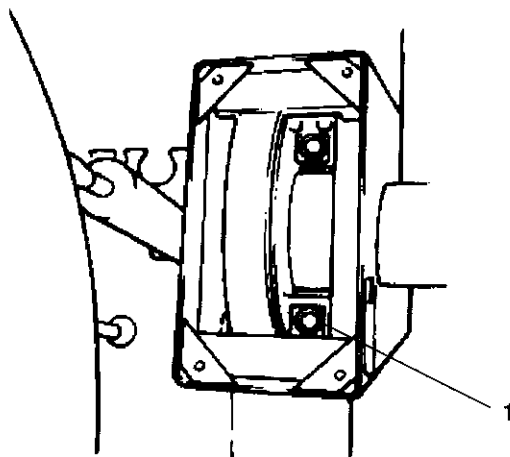

Fig. 3-7
- Lower stop (Fig. 3-7, 1): unscrew locknut (WAF 30) and turn the stop down anti-clockwise using an Allen key (WAF 10). Check entry height. The trolley hoist must be horizontal.